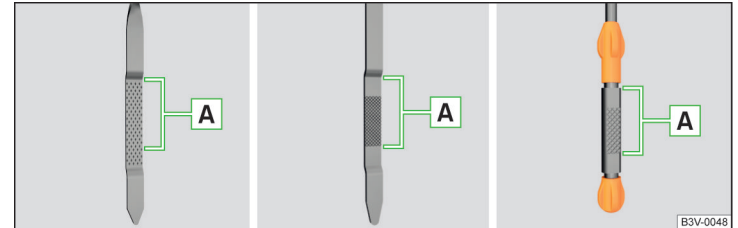

Fig. 317 Dipstick variants
The oil level must be in range **A** » Fig. 317. If the oil level is below the range **A**, refill the oil.
- The oil level must never fall outside range **A** » Fig. 317 - otherwise there is a risk of damaging the engine and the exhaust system.